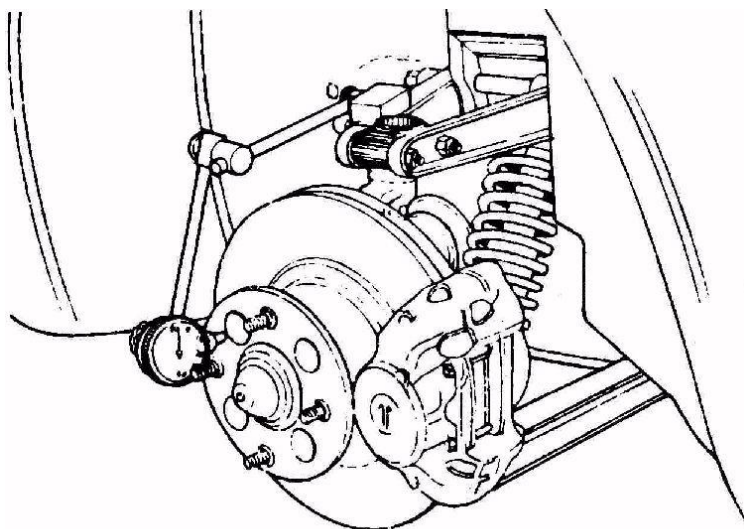

Fig. 2 - Adjusting Front Hub.
6. Mount a dial gauge in such a position that its plunger is against the front face of the hub (see Fig.2). Tighten the securing nut sufficiently to give an indicated end float (see 'Technical Data'). Back off the nut one flat (60°) then insert a new split pin to lock.